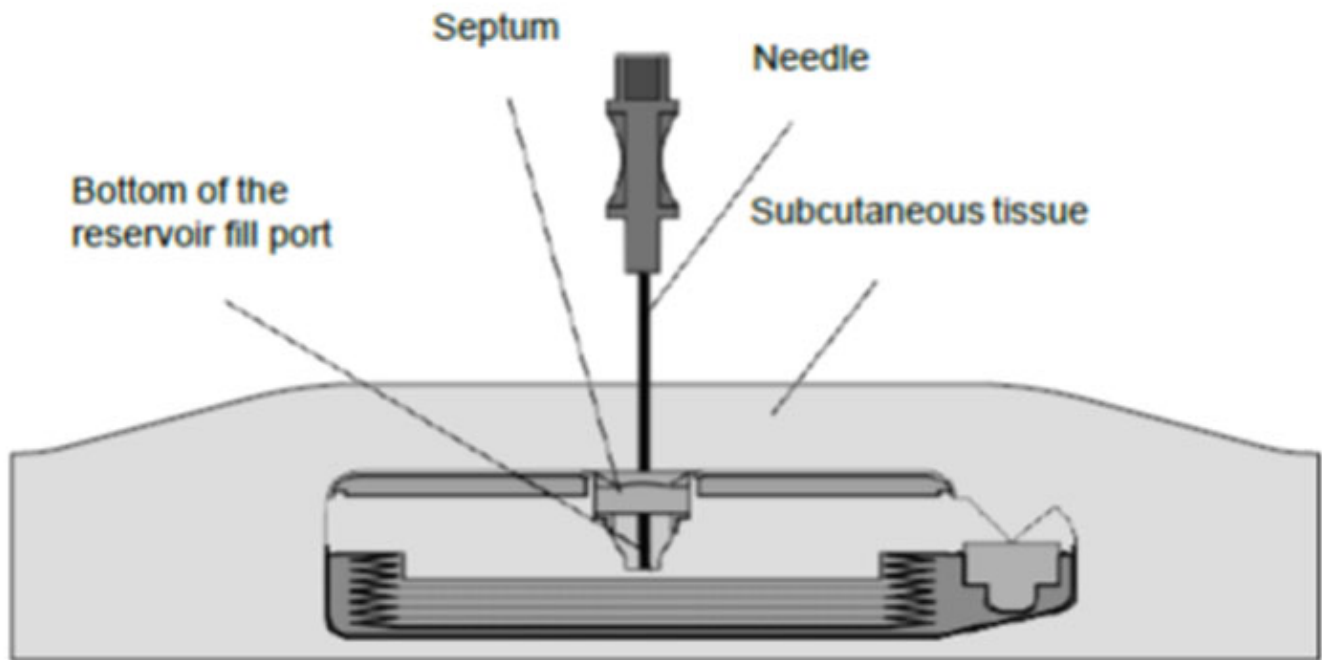

Figure 3. View inside of a SynchroMed programmable pump while the needle is fully and properly inserted.
8. Gently insert the 22-gauge needle perpendicular to the surface of the pump through the center of the template and into the center of the reservoir fill port until the needle touches the bottom of the reservoir fill port (Figures: 3 – 4).